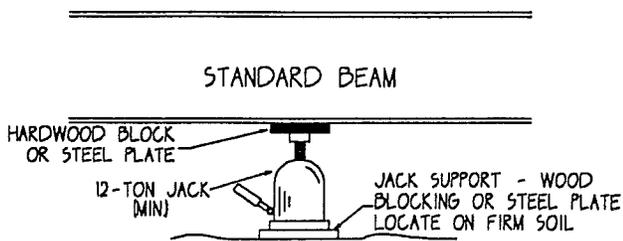

FIGURE 7
2. To distribute the concentrated loads created by the jacks, a steel pad or plate should be placed between the jacks and the steel I-beam or C-channel member. (See Figure 7)